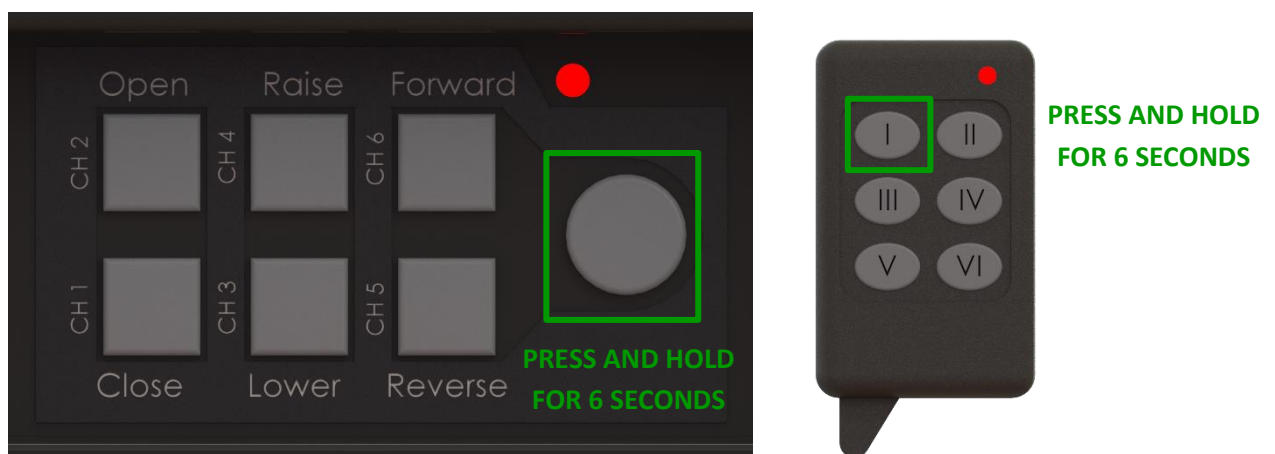

Figure 11: Keyfob Programming Procedure
- 3) Press and hold button I (Figure 11) on the first keyfob for 2 seconds then release. Press button I for 2 seconds on each consecutive keyfob that needs to be programmed.